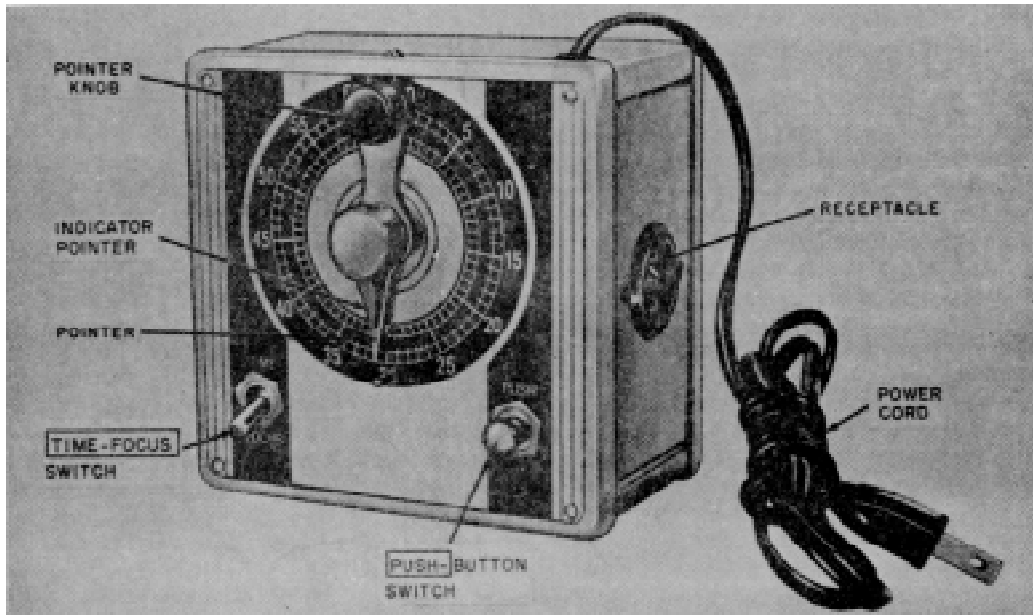

Figure 18. Timer PH-426 or PH-426-A.
c. Timer PH-426-(\*) (figs. 18 and 19).